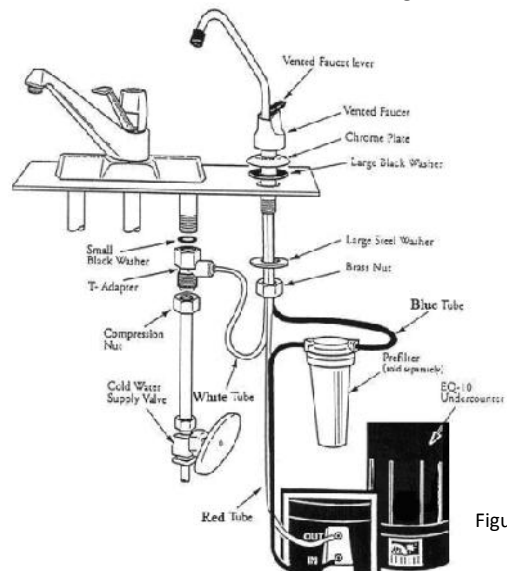

Figure 3
3. Install the Vented Faucet as shown in Figure 3.